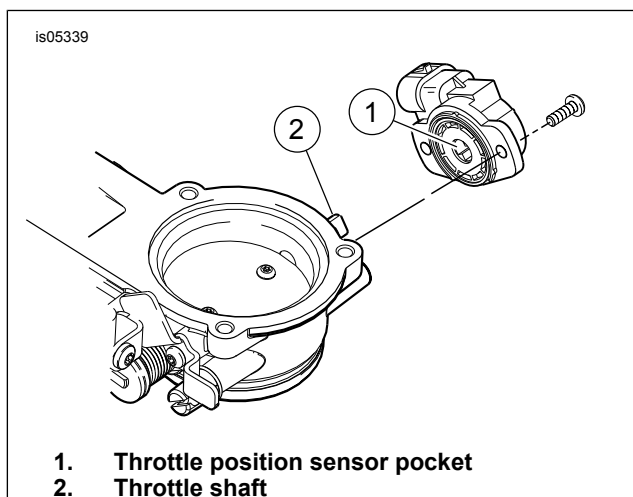

Figure 3. Install Throttle Position Sensor
6. See Figure 3. With the connector facing to the rear of the motorcycle, align the sensor pocket (1) with the throttle shaft (2) and verify the sensor is flush with the throttle body.